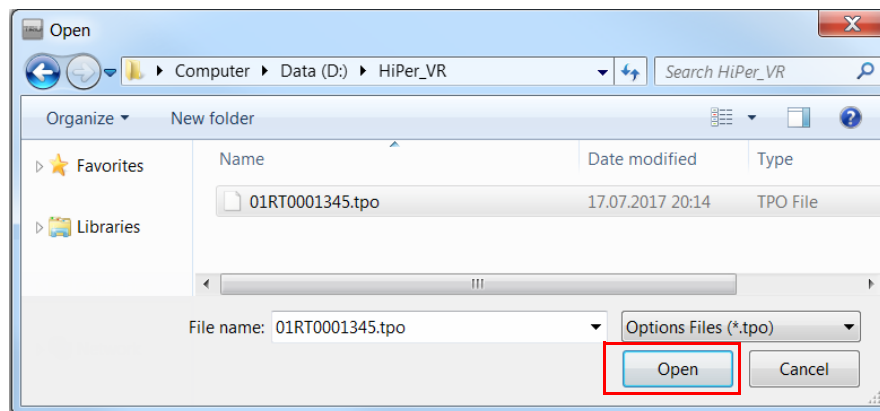

Figure 5-7: Load OAF
4. Select the appropriate file and click **Open** (Figure 5-7).